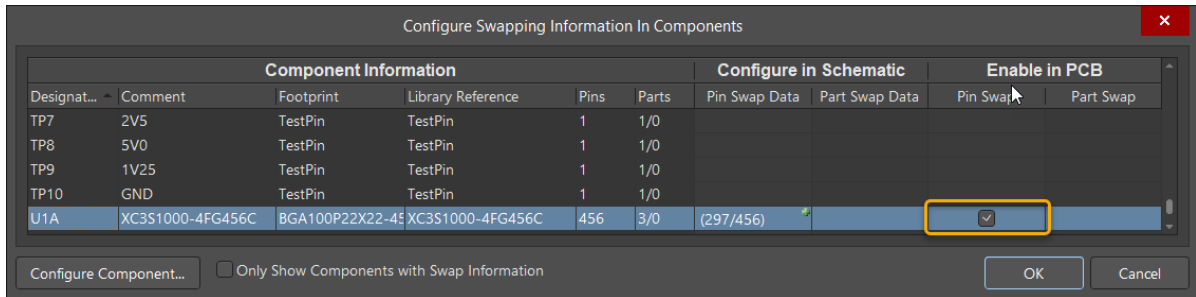

Figure 6. Pin Swap Enabled for U1A in Configure Swapping Information In Components Dialog
16. Ensure that the **Pin Swap** checkbox is enabled for U1A as shown in Figure 6, then click **OK**.